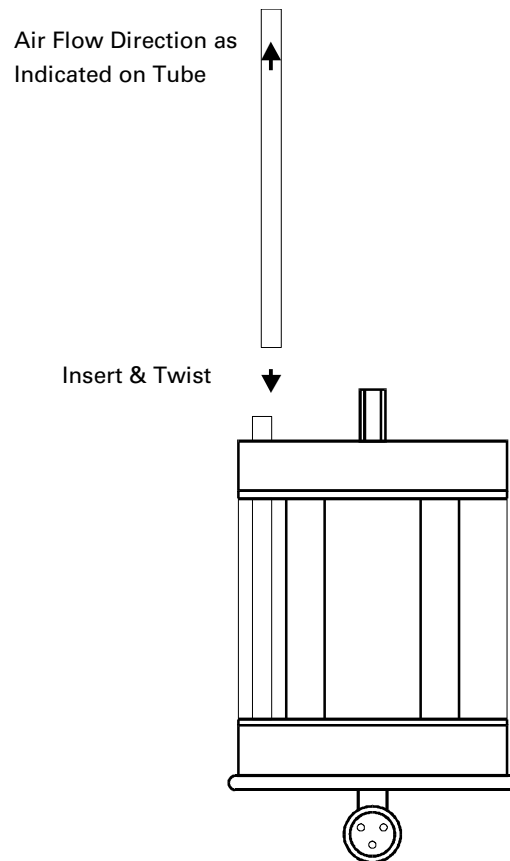

Figure 3. Tube Magazine Diagram
- 2 Insert tubes with the flow directional arrow pointing away from the magazine (Figure 3). Begin inserting tubes at location 1 as indicated on the side of the magazine. Holding the tube with the short piece of rubber tubing included eases installation and removal.